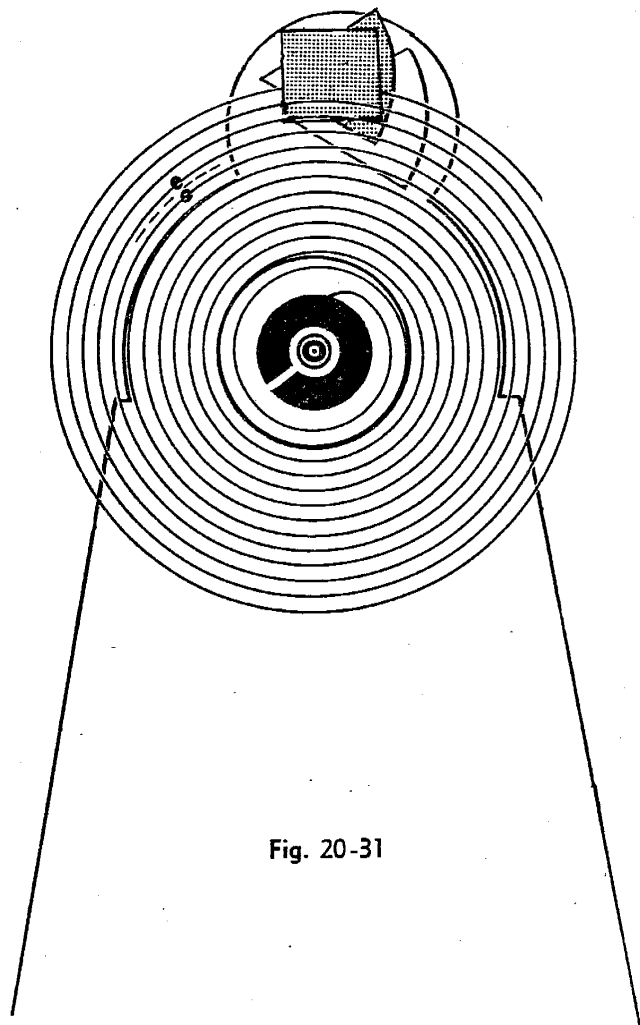

Fig. 20-31
8. Now locate the coil or space which the overcoil is to follow. Place the hairspring over bridge as in figure 20-31 with the center of the collet right over the center of the balance jewel. See which coil or space between coils falls between the regulator pins. In figure 20-31, it is the space between the 3d and 4th coil, not counting the outside coil. In this example, the overcoil will follow this space.